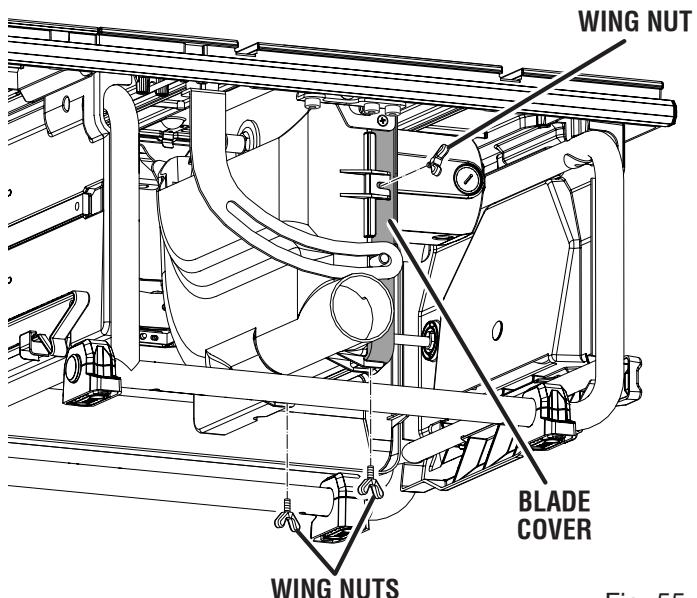

Fig. 55
- Unscrew wing nuts and open the blade cover. Clean sawdust and wood chips from the blade cover. Close and secure. (See figure 55.)